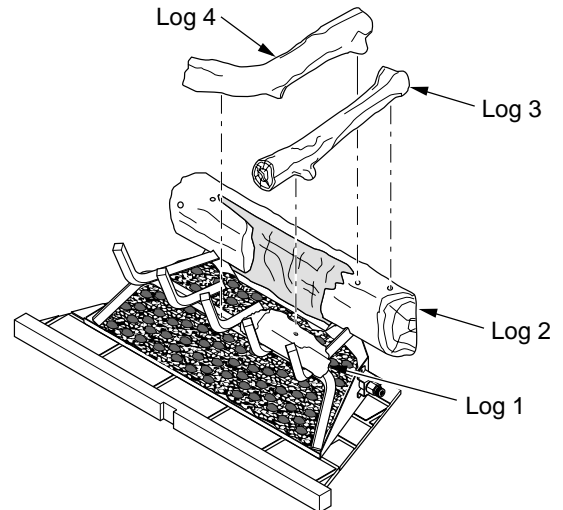
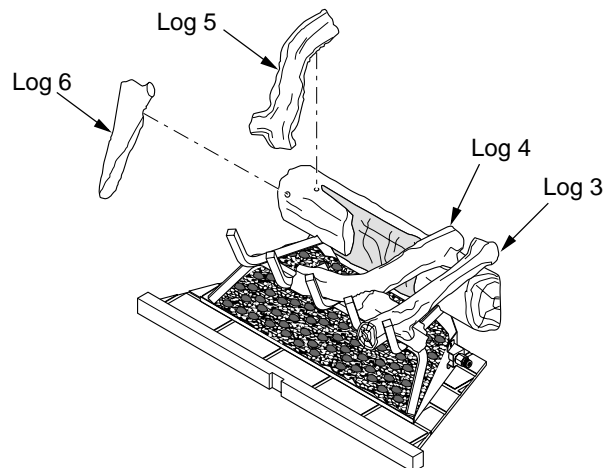
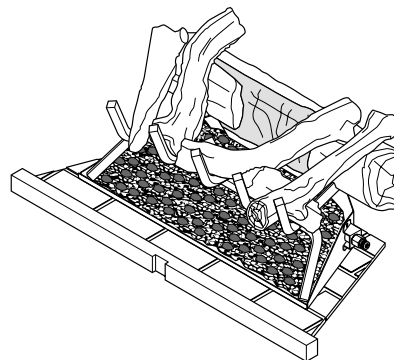

Figure 24 - Installing Logs 3 and 4
Figure 25 - Installing Logs 5 and 6
Figure 26 - Logs Installed for M36E/VM36E Models
3. Place log 3 across logs 1 and 2 aligning pegs on log 3 with holes in logs 1 and 2 (see Figure 24).
4. Place the top of log 4 across the right side of log 2, aligning peg in log 4 with hole in log 2 (Figure 24). Rest the front of log 4 on the grate as shown in Figure 25.
5. Align the peg at top of log 5 with the hole on the top left of log 2 (see Figure 25). Rest the bottom of log 5 on grate as shown in Figure 26.
6. Align peg at the top of log 6 with hole on the front left of log 2 (Figure 25). Rest the bottom of log 6 on grate as shown in Figure 26.